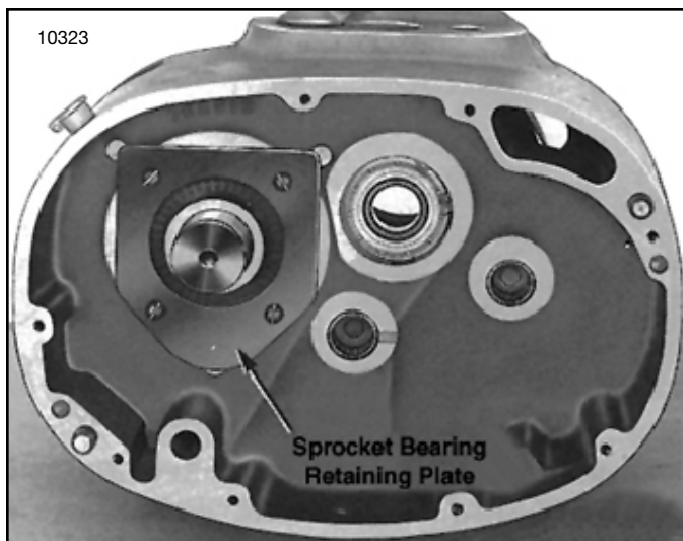

Figure 7-11. View of Sprocket Bearing Retaining Plate
(1) Remove acorn nuts holding brake cover and remove brake cover (fig. 7-11).
(2) Disconnect wire nuts on brake coil leads.
(3) Remove brake mounting plate screws (fig. 7-11) and lift brake assembly off to gain access to the motor mounting bolts.
(2) Unscrew four fillister head machine screws securing sprocket bearing retaining plate and remove plate (fig. 7-11). Remove and discard ring gasket from groove around bearing.